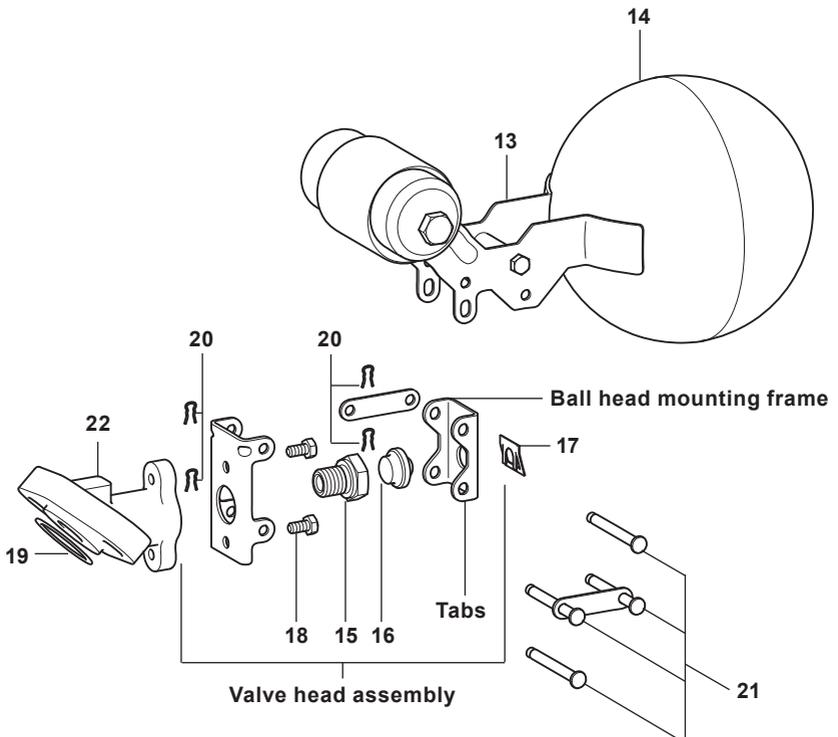

Fig. 9 Seat and ball head replacement
- Once removed, the mechanism assembly (13) is easily disassembled by removing each spring clip (20) at the end of each pivot pin (21). The pins may then be withdrawn.
- The valve seat (15) and ball head (16) can now be accessed and replaced if necessary.
- To replace the seat (15) unscrew the old one from the mounting bracket (22). Tighten the new seat (15) to the recommended torque (see Table 1, page 20). There is no need to remove the pressed steel pivot frame during this operation.
- To replace the ball head (16) simply remove the retainer (17). The old ball head (16) should drop out of its frame. Fit the new ball head (16) through the pivot frame and refit the retainer (17). Ensure that the ball head (16) and the tabs on the frame are on the same side as one another. The retainer (17) should be on the opposite side to the tabs on the pivot frame (as shown in Figure 9).
- Reassemble the mechanism assembly (13) as shown using the pivot pins (21) and spring clips (20). Refit the mechanism assembly as instructed under Section 6.4.